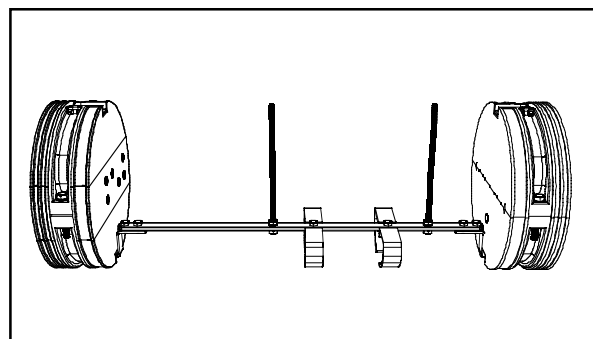

FIGURE 18 – BUFFER TUBE STORAGE ASSEMBLY SECURED TO END PLATES
10.01 Remove the torque bar attachment bolts from the End Plates and secure the Buffer Tube Storage Assembly Torque Bar to the End Plate. (Figure 18)